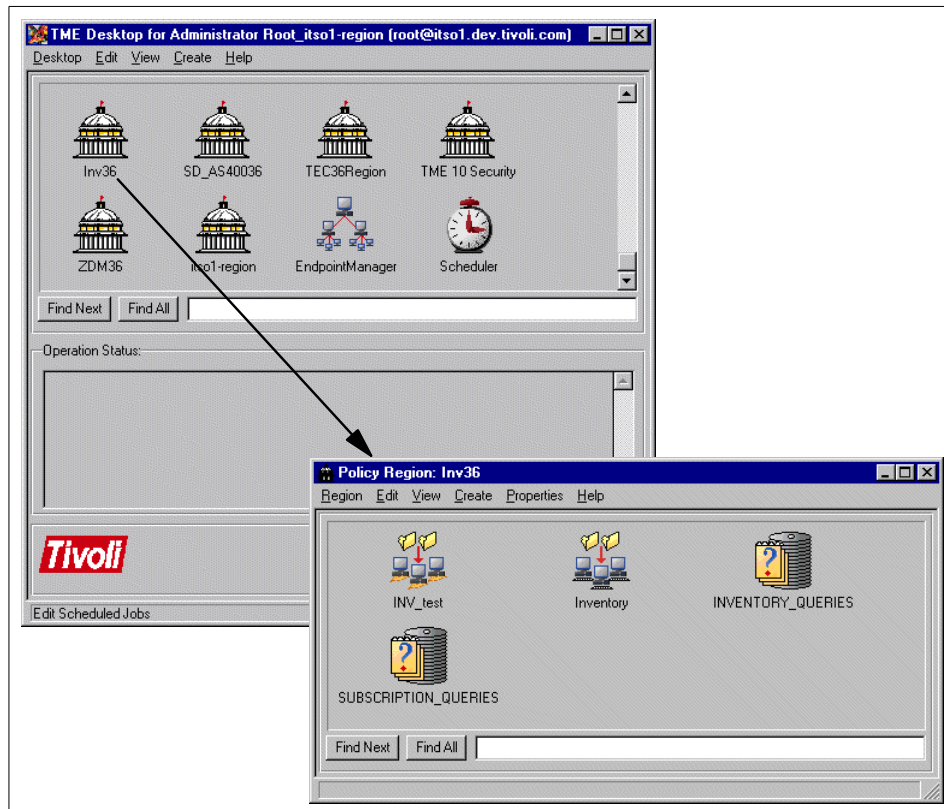

Figure 265. Using Tivoli Inventory on Tivoli Desktop
1. Select **INVENTORY_QUERIES** from the policy region shown in Figure 265 on page 430.